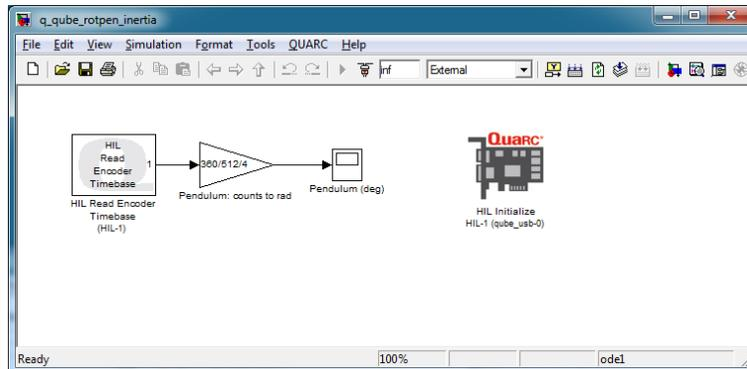

Figure 2.1: Displays measured pendulum angle
Based on the model already designed in QUBE-Servo Integration laboratory experiment, design a model that measures the pendulum angle using the encoder as shown in Figure 2.1.
2. Build the **Simulink**[®] diagram shown in Figure 2.1. Enter $360/(512 * 4)$ in the encoder sensor gain to measure the pendulum angle in degrees.